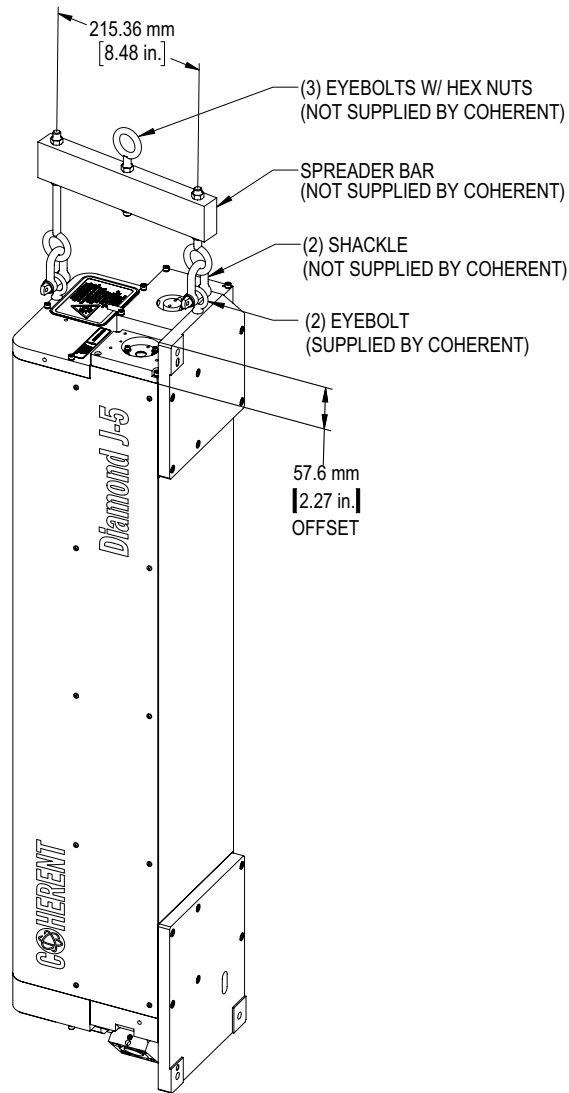

Figure 4-15. Vertical Mounting Illustration
1. Install eyebolts into screw holes. See Figure 4-14 for screw hole locations. Do NOT use the top eyebolt locations during vertical lift (refer to Figure 4-15 on page 71).
2. Securely connect appropriate slings or chains to the eyebolts and a user-supplied spreader bar. Chains/slings must be vertical when under load. See Figure 4-15.
- Carefully lift the laser system while preventing the free end from moving around. See Figure 4-15.